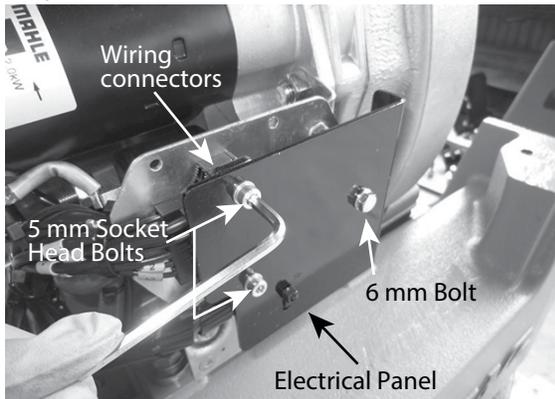

Figure 46. Electrical Plate Installation
- Secure the electrical panel to the plate behind it with the 6 mm bolt and two 5 mm socket head bolts that were removed earlier (Figure 46). Make sure the two existing wiring connectors are secured between the panel and the plate with the 5 mm socket head bolts as shown.